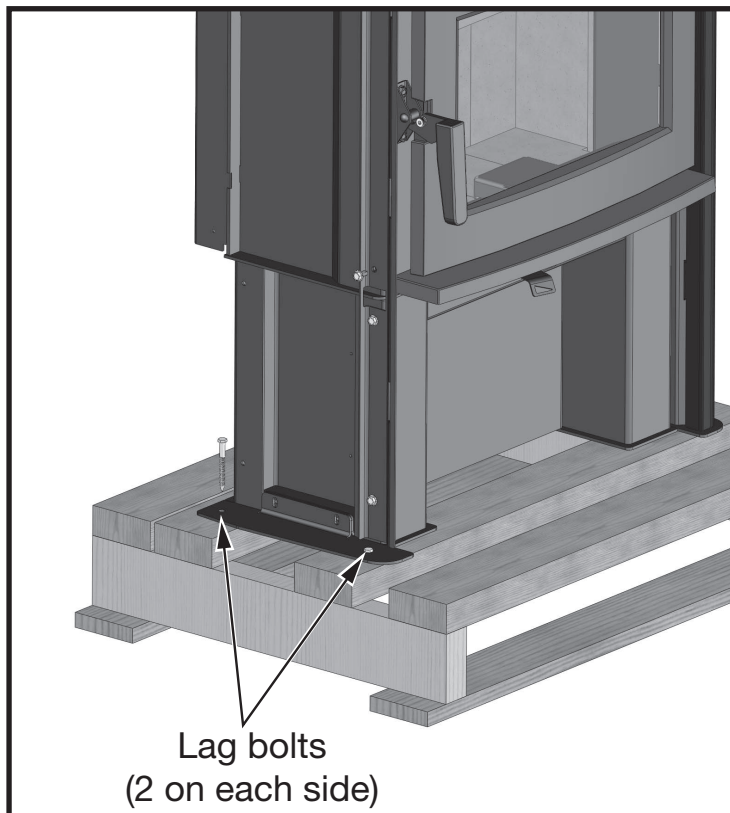

Figure 2: NEO 1.2 pallet removal.
3. Using a  $\frac{7}{16}"$  (12mm) wrench, remove lag bolts that secure hold down brackets to bottom pallet (Figure 2).